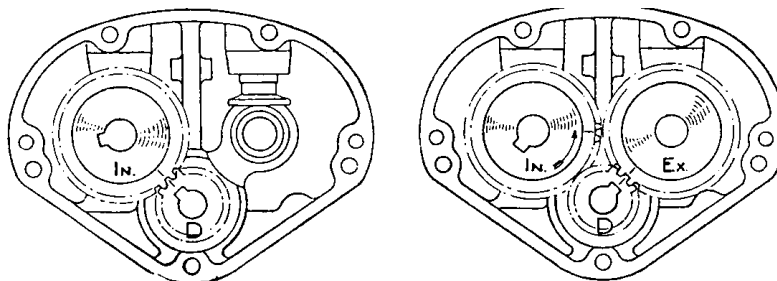

FIG. 58. HOW TO ALIGN THE TIMING GEAR MARKS (1945-9)
(1) Turn the engine slowly until the line mark on the small engine pinion (shown at (D) in Fig. 58) is in line with the centre of the bush for the inlet camshaft. The bush concerned is the rear one.
- (2) Fit the inlet camshaft so that the line mark on the camwheel registers